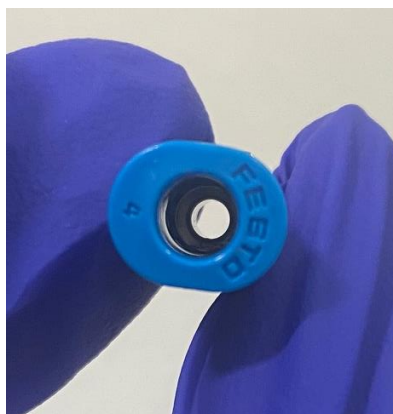
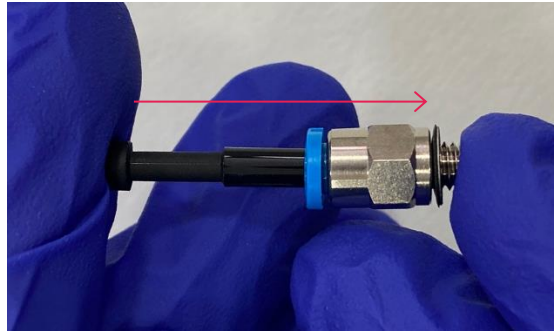

Fig. 14. FESTO connector entry hole marking.
Fig. 15. Installation of the FESTO connector plug into the input hole of the FESTO connector with the direction of the push.
Step 32. Install the plug into the FESTO fitting. Push the FESTO fitting plug into the FESTO fitting receptacle (Fig.14) as far as it will go, as indicated by the arrow (Fig.15).